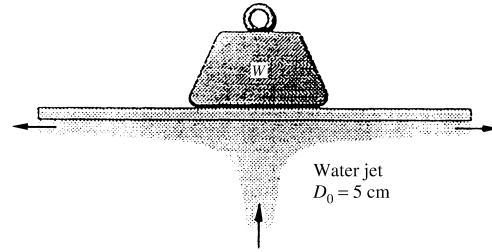

Fig. P3.45
3.45 In Fig. P3.45 a perfectly balanced 700-N weight and platform are supported by a steady water jet. What is the proper jet velocity?